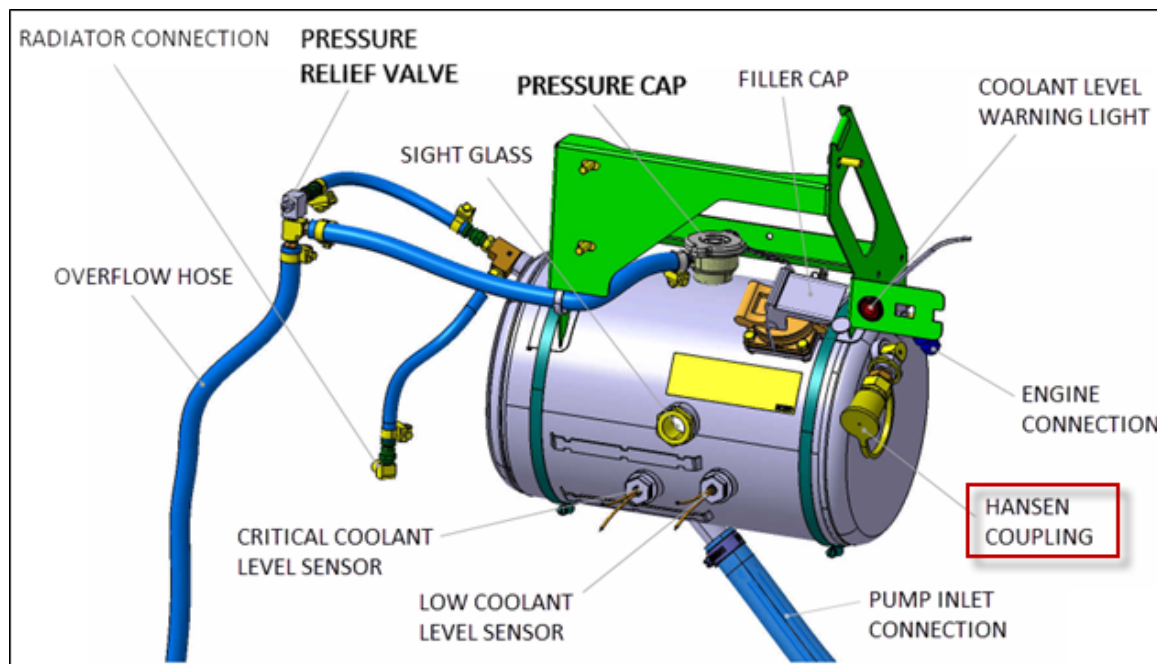

Figure 3: Hansen coupling on surge tank.
- Re-pressurize the system by the "Hansen" coupling. (Fig. 3) Do not exceed **15 psi**.